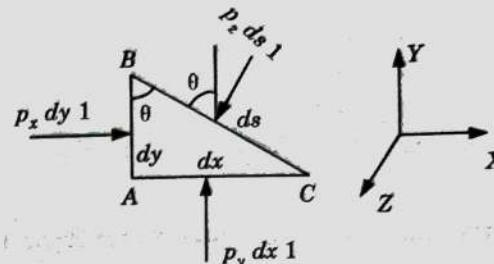

Fig. 3.9.1.
- Consider an arbitrary fluid element of wedge shape in a fluid mass at rest as shown in Fig. 3.9.1.
- But from Fig. 3.9.1, $ds \cos \theta = AB = dy$